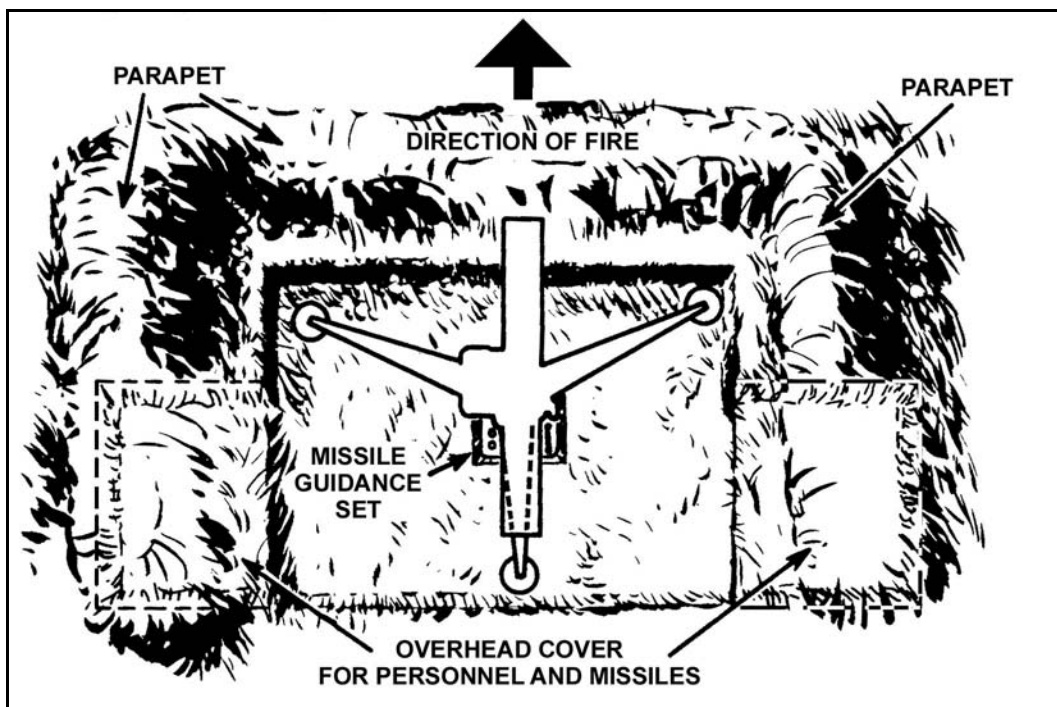

Figure D-9. Overhead cover and missile guidance set position.
(2) The squad constructs parapets to the front and flanks that are at least 18 inches thick (the length of two collapsed entrenching tools) for protection from small-arms fire and mortar and artillery fragments. For TOW employment, the squad ensures a 9-inch clearance (the length of one collapsed entrenching tool) between the bottom of the launcher tube and the parapet. The squad digs a hole between the tripod legs for the missile guidance set (Figure D-9, page D-10). The squad digs the position no more than 24 inches deep (the length of a fully extended entrenching tool) to ensure adequate LOS clearance on flat terrain out to ranges of between 500 and 900 meters
(3) The squad digs additional positions on each side and to the rear of the antiarmor position. The squad also adds overhead cover for personnel and for the ammunition to each of these positions (Figure D-9, page D-10).